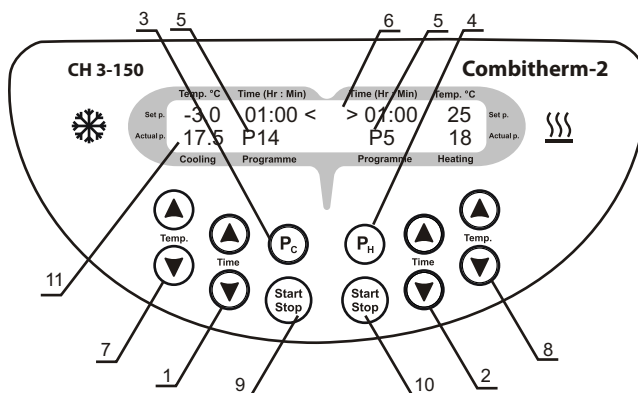

Fig.1 Control panel
- current temperature of the heating/cooling blocks (fig. 1/11) and program number (fig. 1/5) in the lower line (Actual p.).
- Select the appropriate program number (fig. 1/5) by pressing **P_c** programming key (fig. 1/3) for a cooling thermoblock (use the buttons on the left side of the keyboard for setting) or the **P_h** programming key (fig. 1/4) for heating thermoblock (use the buttons on the right side of the keyboard for setting).
- Press the **P_c** or **P_h** programming key to enter the programming mode and hold it for 4 seconds until **>** or **<** symbol is shown on the display (fig. 1/6). If no key is pressed for 4 seconds, the programming mode will be turned off.
- Use the **▲** and **▼** Temp. keys (fig. 1/7 or 1/8) to set the required temperature (cooling increment is 0.1°C, heating increment is 1°C). Use the set temperature readings in the upper line of the display (set point) to control the set value. Pressing down and holding the key for more than 2 sec will increase the increment.
- Use the **▲** and **▼** Time keys (fig. 1/1 or 1/2) to set the required working time interval in hours and minutes (increment is 1 min). Use the set time readings in the upper line of the display (set point) to control the set value. Pressing down and holding the key for more than 2 sec will increase the increment.
- Press the **P_c** or **P_h** programming key (fig. 1/3 or 1/4) second time to save settings or the settings will be saved automatically in 8 seconds.
Select the appropriate program by pressing the **P_c** or **P_h** programming key (fig. 1/3 or 1/4).
- 4.7. Press the **Start Stop** key (fig. 1/9 or 1/10) to start the timer. The timer indicator will start counting down the time interval (with 1 min precision).
Press the **Start Stop** key (fig. 1/9 or 1/10) to turn off the signal. Pressing **Start Stop** key again will restart the timer.